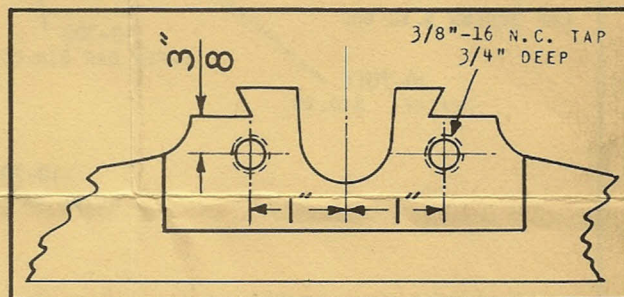

FIG. 2. Locating tapped holes in carriage for early model ATLAS 9" & 10" lathes.
**NOTE:** On early model ATLAS 9" and 10" lathes a portion of the back of the carriage must be machined by end milling or filing. The finished pad must be slightly larger than the face of the bracket "B". Drill and tap the two holes as shown in Figure 2.